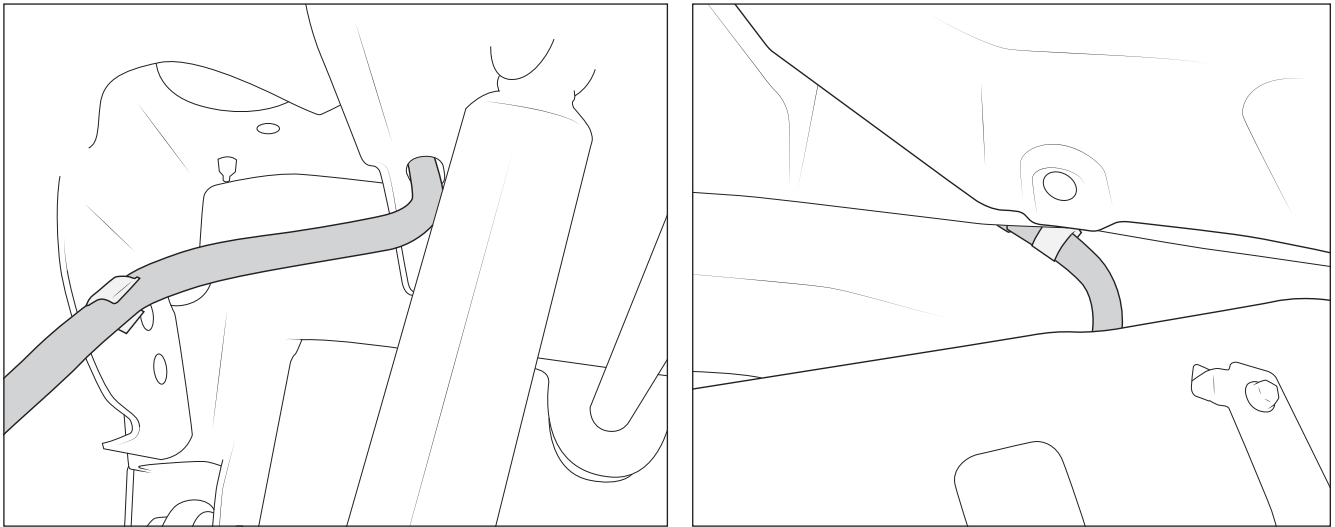

Figure 10
17. Reroute the Axle Vent as shown (Fig. 10).